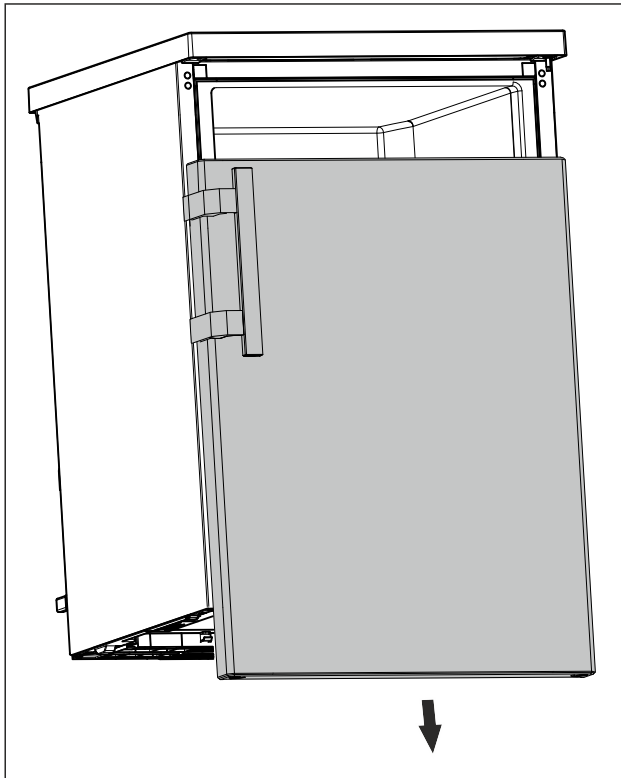

Fig. 13
- ▶ Remove the door downwards. (see Fig. 13)